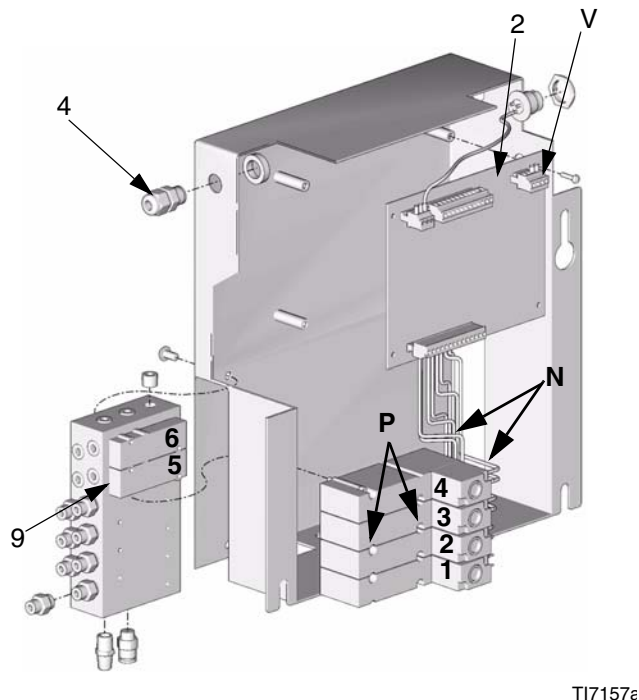
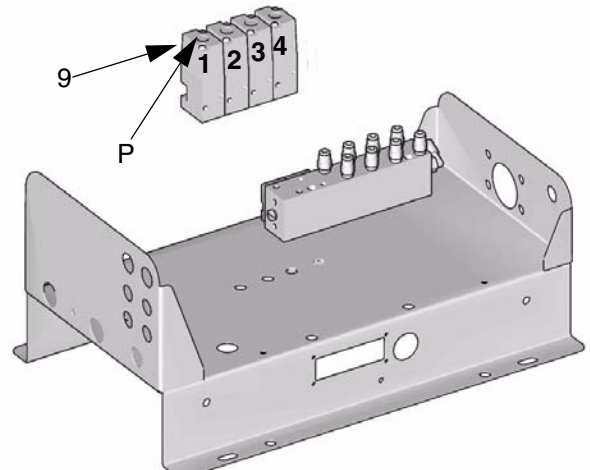

FIG. 23: Wall Mount Fluid Panel Solenoids
FIG. 24: RoboMix Fluid Panel Solenoids
2. Disconnect 2 solenoid wires (N) from control board (2). FIG. 23 and FIG. 24 (wires not shown in FIG. 24).
3. Unscrew 2 screws (P) and remove the solenoid.